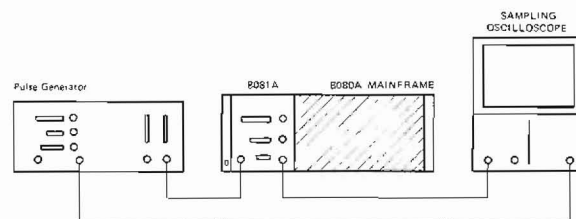

Figure 4–7. External Gate Mode (Fast) Test Setup
1. Set up the equipment as shown in figure 4–7 and set up the controls as follows: